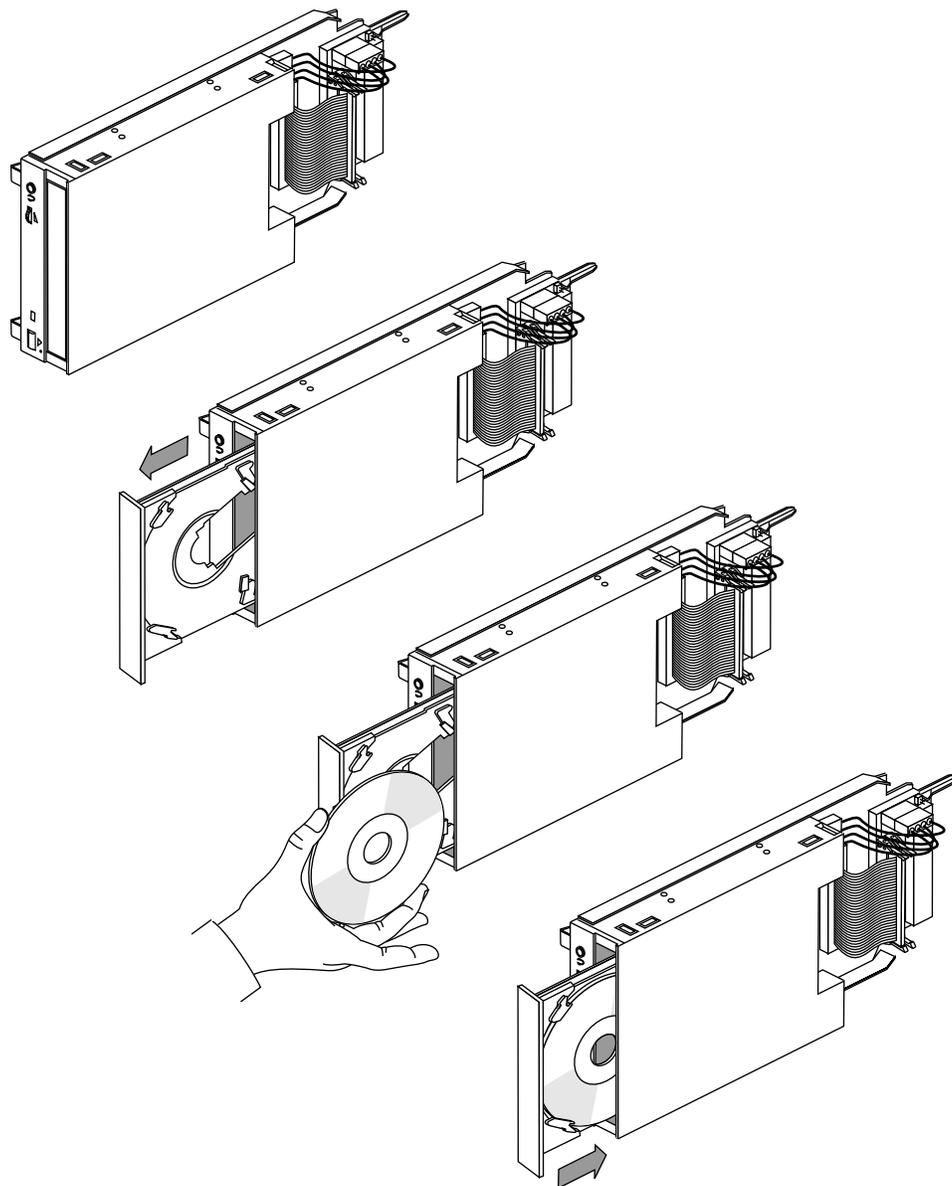

Figure 4-6 Loading a Disc Into the CD-ROM Drive
4. Open the CD-ROM drawer, pull back two of the retaining latches and insert the CD-ROM into the drawer, as shown in Figure 4-6.